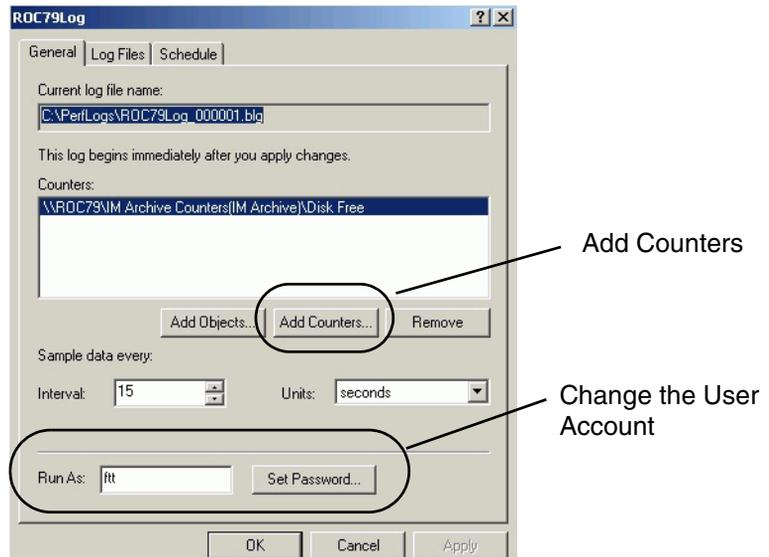

Figure 81. Adding Counters and Specifying the User Account
5. Use the **Add Counters** button to start a dialog for adding counters to this log. The procedure is basically the same as described in Adding a Counter on page 208, Figure 81.